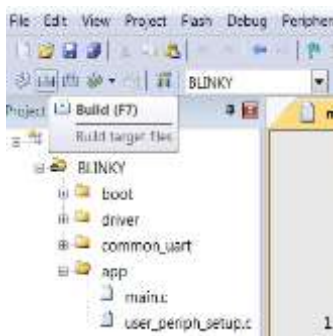

Figure 23: Blinky Project: Project Building
- Build the project by pressing F7 key, or clicking the Build button, see **Figure 23**.